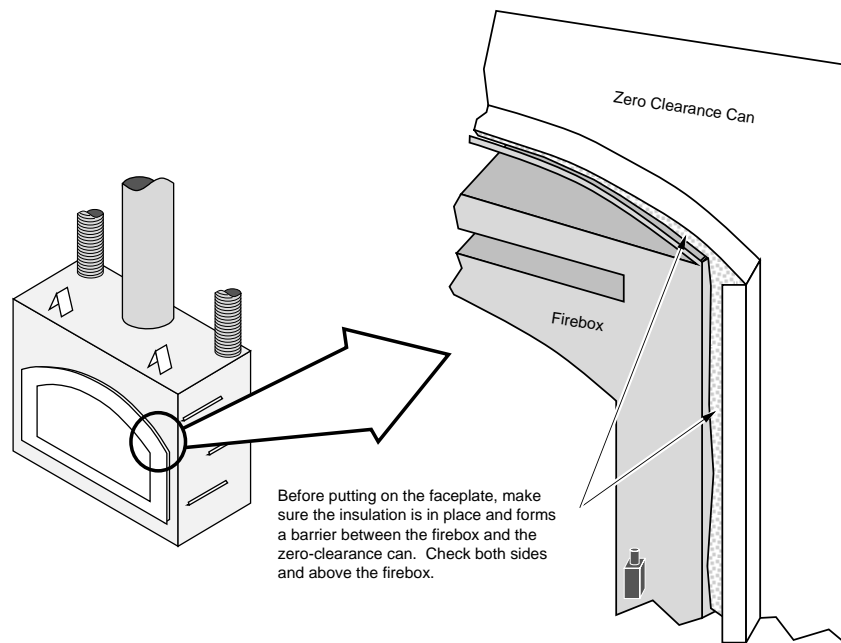

Figure 30
- Make sure the insulation between the firebox and fireplace can is still in place (see Figure 30).